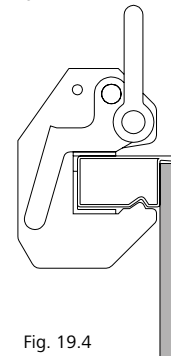

Fig. 19.4
3. Release the safety lever and press it back to its start position so that the crane hook is locked completely (Fig. 19.4).